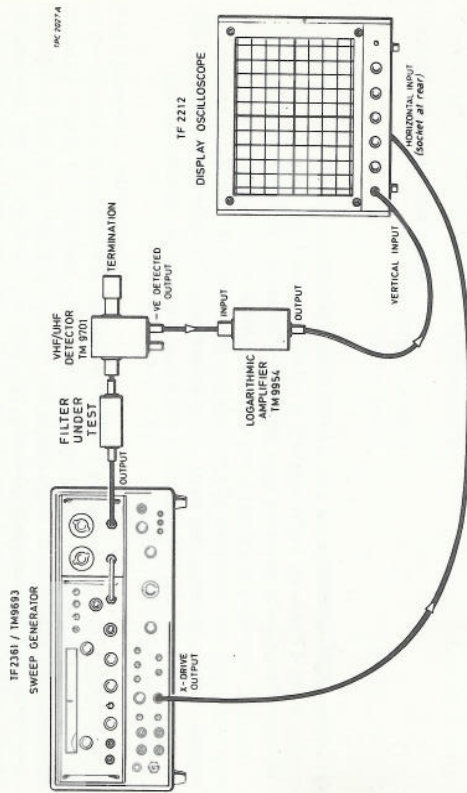
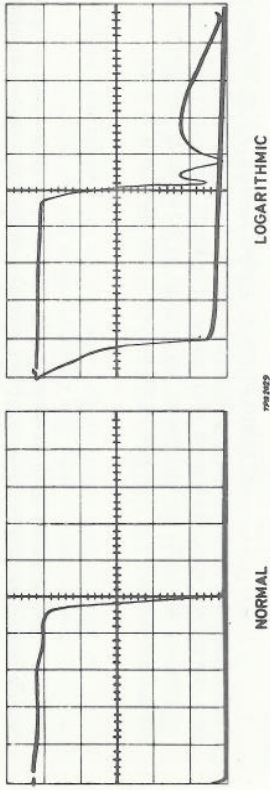

Fig. 2.1 Set-up for frequency response measurement.
Fig. 2.2 Typical Low-pass filter response.
The logarithmic amplifier is ideal for filter or attenuator response measurements (see Fig. 2.1 for equipment set-up) and amplitude against frequency measurements involving low levels or wide dynamic ranges of r. f. signal. At the points where such responses are a large number of dB below the reference level (e.g. 60 dB), details can be seen that are lost on a normal display - see Fig. 2.2.
Before making a measurement the logarithmic law of the instrument should be correctly set up. The procedure is in two parts, baseline calibration and bottom limit calibration. Baseline calibration is the coarser part and should thus be performed first. Bottom limit calibration is the finer and need not be performed at all if only the top 40 dB part of the dynamic range is to be looked at. The operations are described with reference to the simple equipment set-up shown in Fig. 2.1.
(1) With the equipment connected as shown in Fig. 2.1 (ensuring that the detector is loaded if d. c. return is not provided by the sweep generator) set the LOG/DIRECT switch to DIRECT and align the baseline level on the DISPLAY OSCILLOSCOPE (i. e. the flyback trace) with a convenient graticule line.
(2) Set the LOG/DIRECT switch to LOG, the FINE BALANCE control to mid-position and adjust the PRESET BALANCE control to bring the baseline level trace to the same position as in (1). Generator noise during retrace may alter baseline level; therefore, insert attenuation on the sweep generator, until further attenuation has no effect on baseline position (usually less than 30 dB will suffice). The PRESET BALANCE control is a multi-turn control and to adjust it you will need a small screwdriver (or trimming tool) that easily fits into the hole in the case that gives access to it.